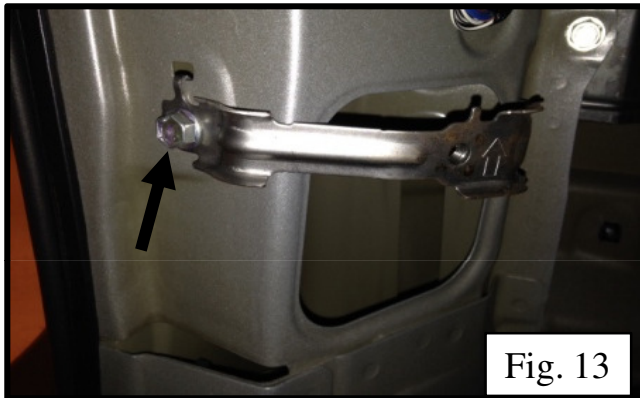

Fig. 13
15.  If 8 Passenger Seat option is installed, remove the bolts (black arrows) that attach the brackets using a 10mm socket and ratchet (Fig.13 and 14). Remove brackets.